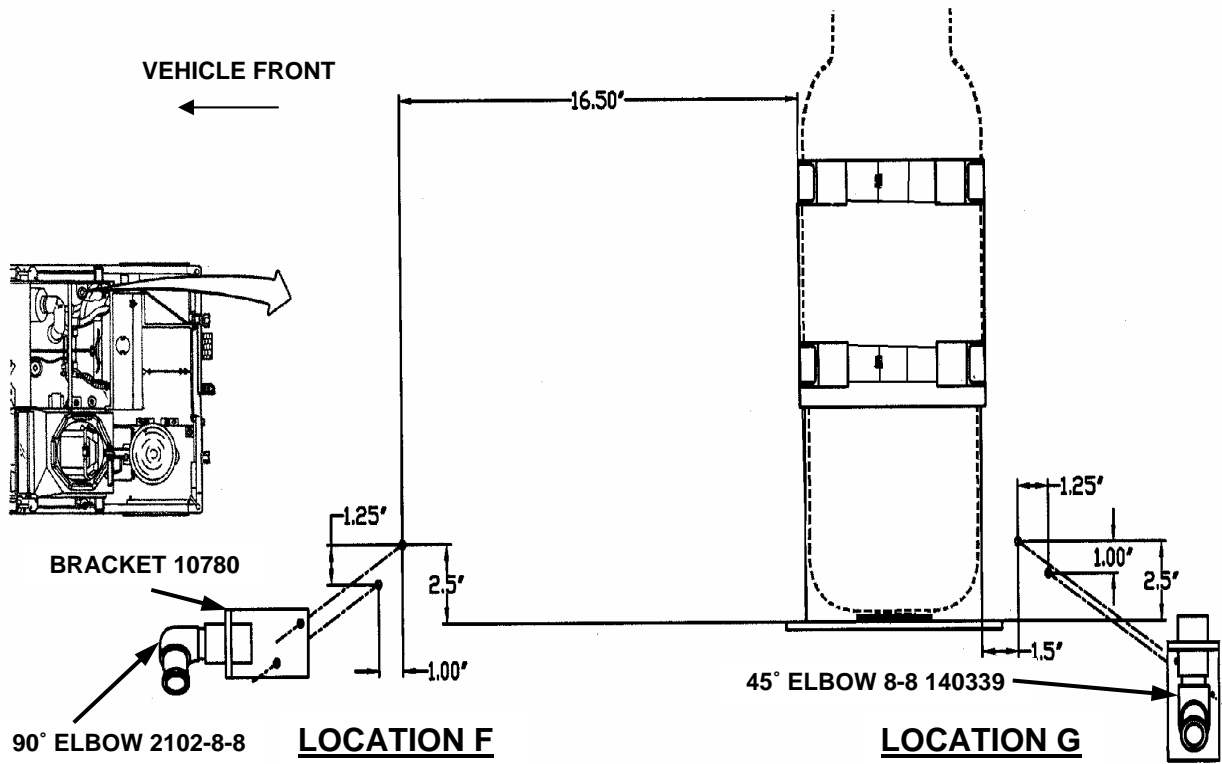

Figure 3-4. Right Side Nozzle Bracket Installation
Steps a through e below apply to Figure 3-4.
- Using suitable machinist's ruler, measure, mark, and center punch, for drilling and tapping four holes for two brackets (10780) on right side (Figure 3-4).
- Install two brackets (Figure 3-4) with four washers (MS27183-49) and screws (B1821BH025C050N).
- Install 90° elbow (2102-8-8) and nozzle (10250) at LOCATION F (Figure 3-4). Using suitable machinist's protractor and straight edge, direct 90° elbow towards engine at 10° down from horizontal.
- Install 45° elbow (8-8 140339) and nozzle at (10250) LOCATION G (Figure 3-4). Direct 45° elbow directly towards left side of vehicle.